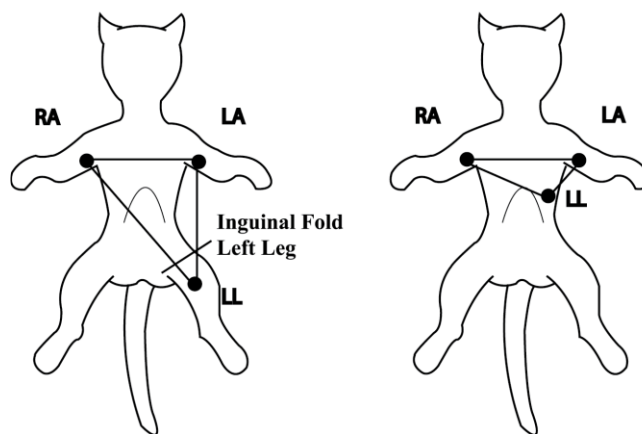

Figure 21. Standard 3 Electrode Placement
1. Select the electrodes to be used. Use only one type of electrode on the same patient to avoid variations in electrical resistance. Prepare the electrode sites according to the electrode manufacturer's instructions. See Figure 21 and 22 for electrode placement configurations.